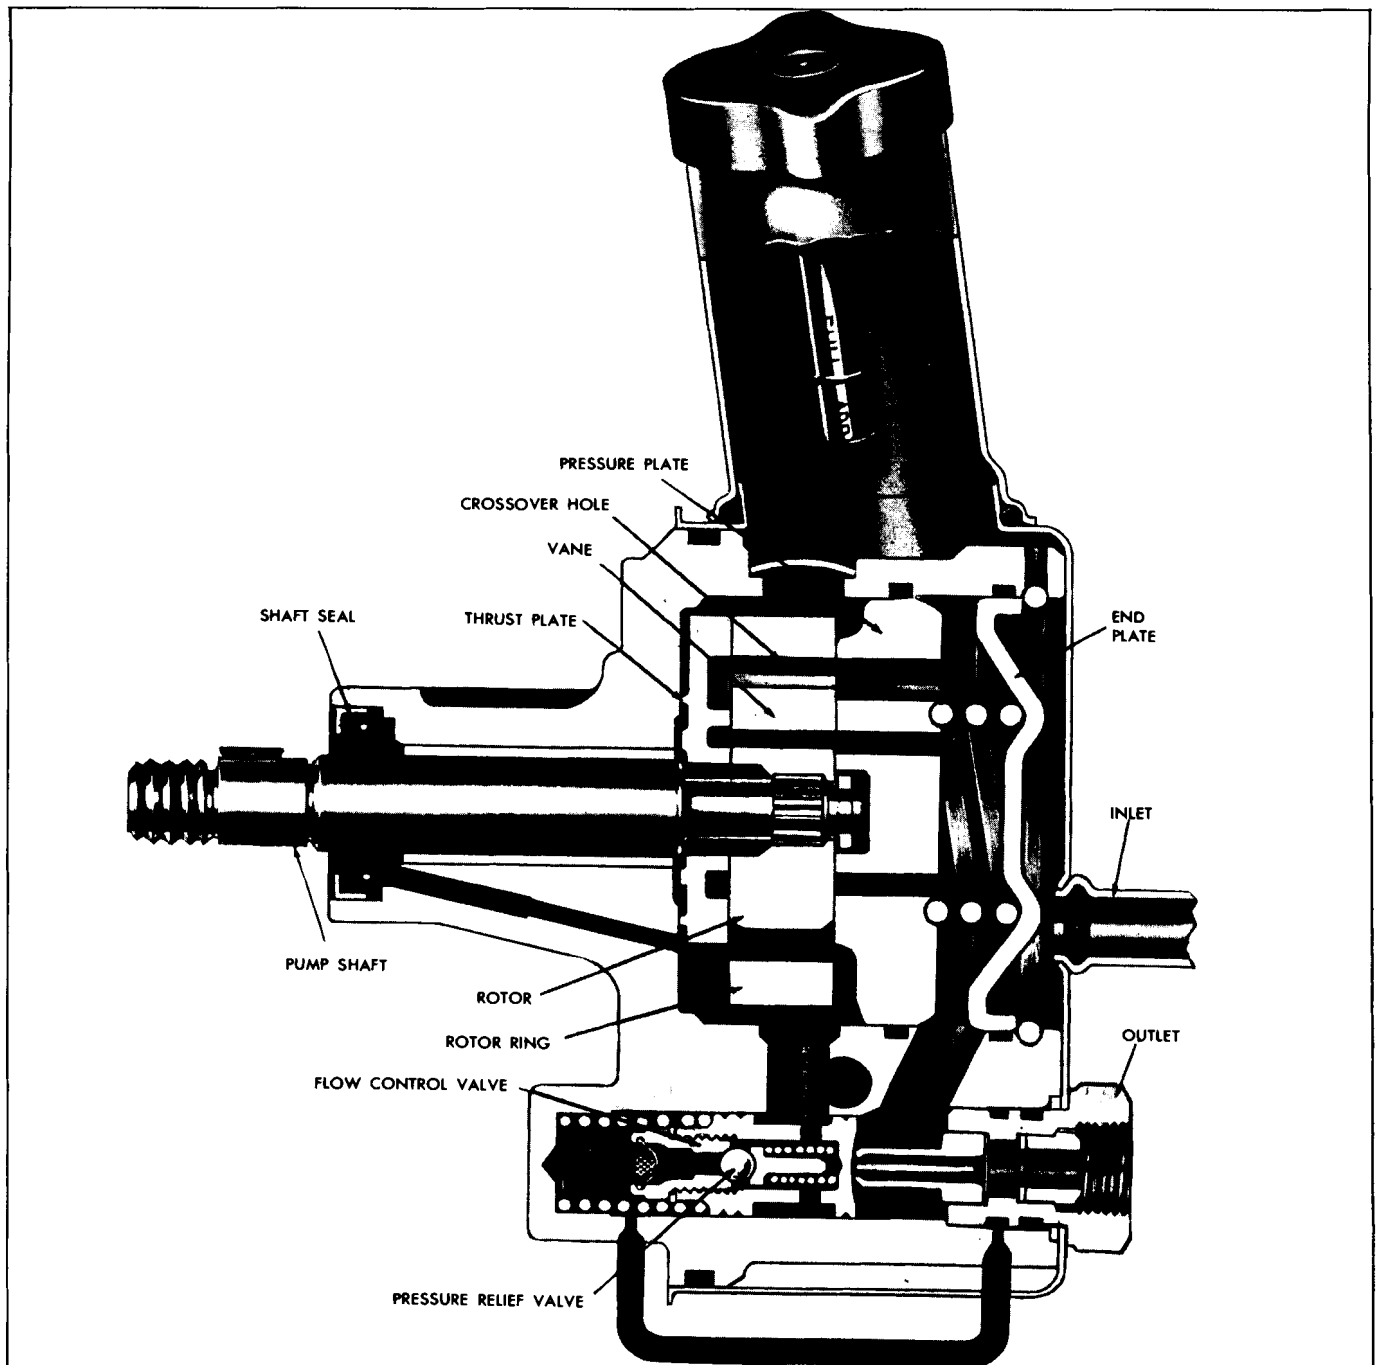
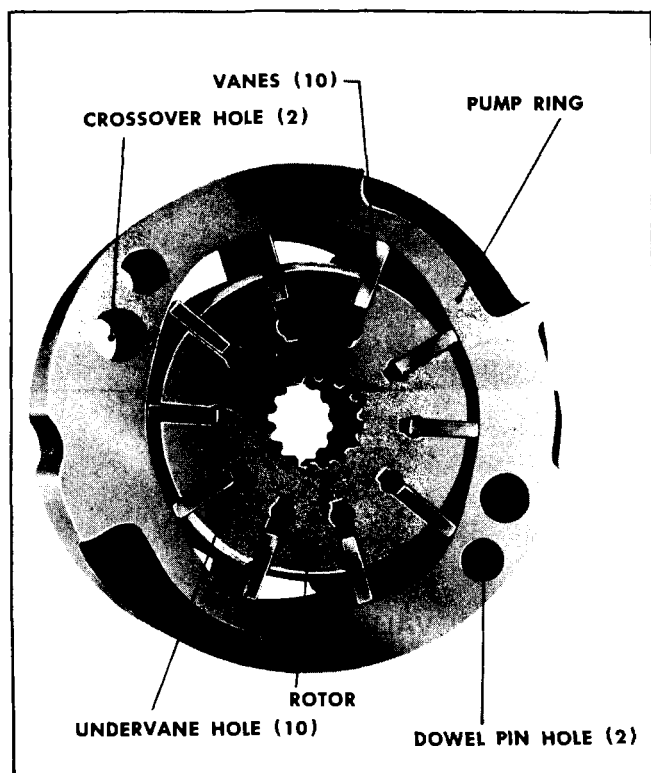
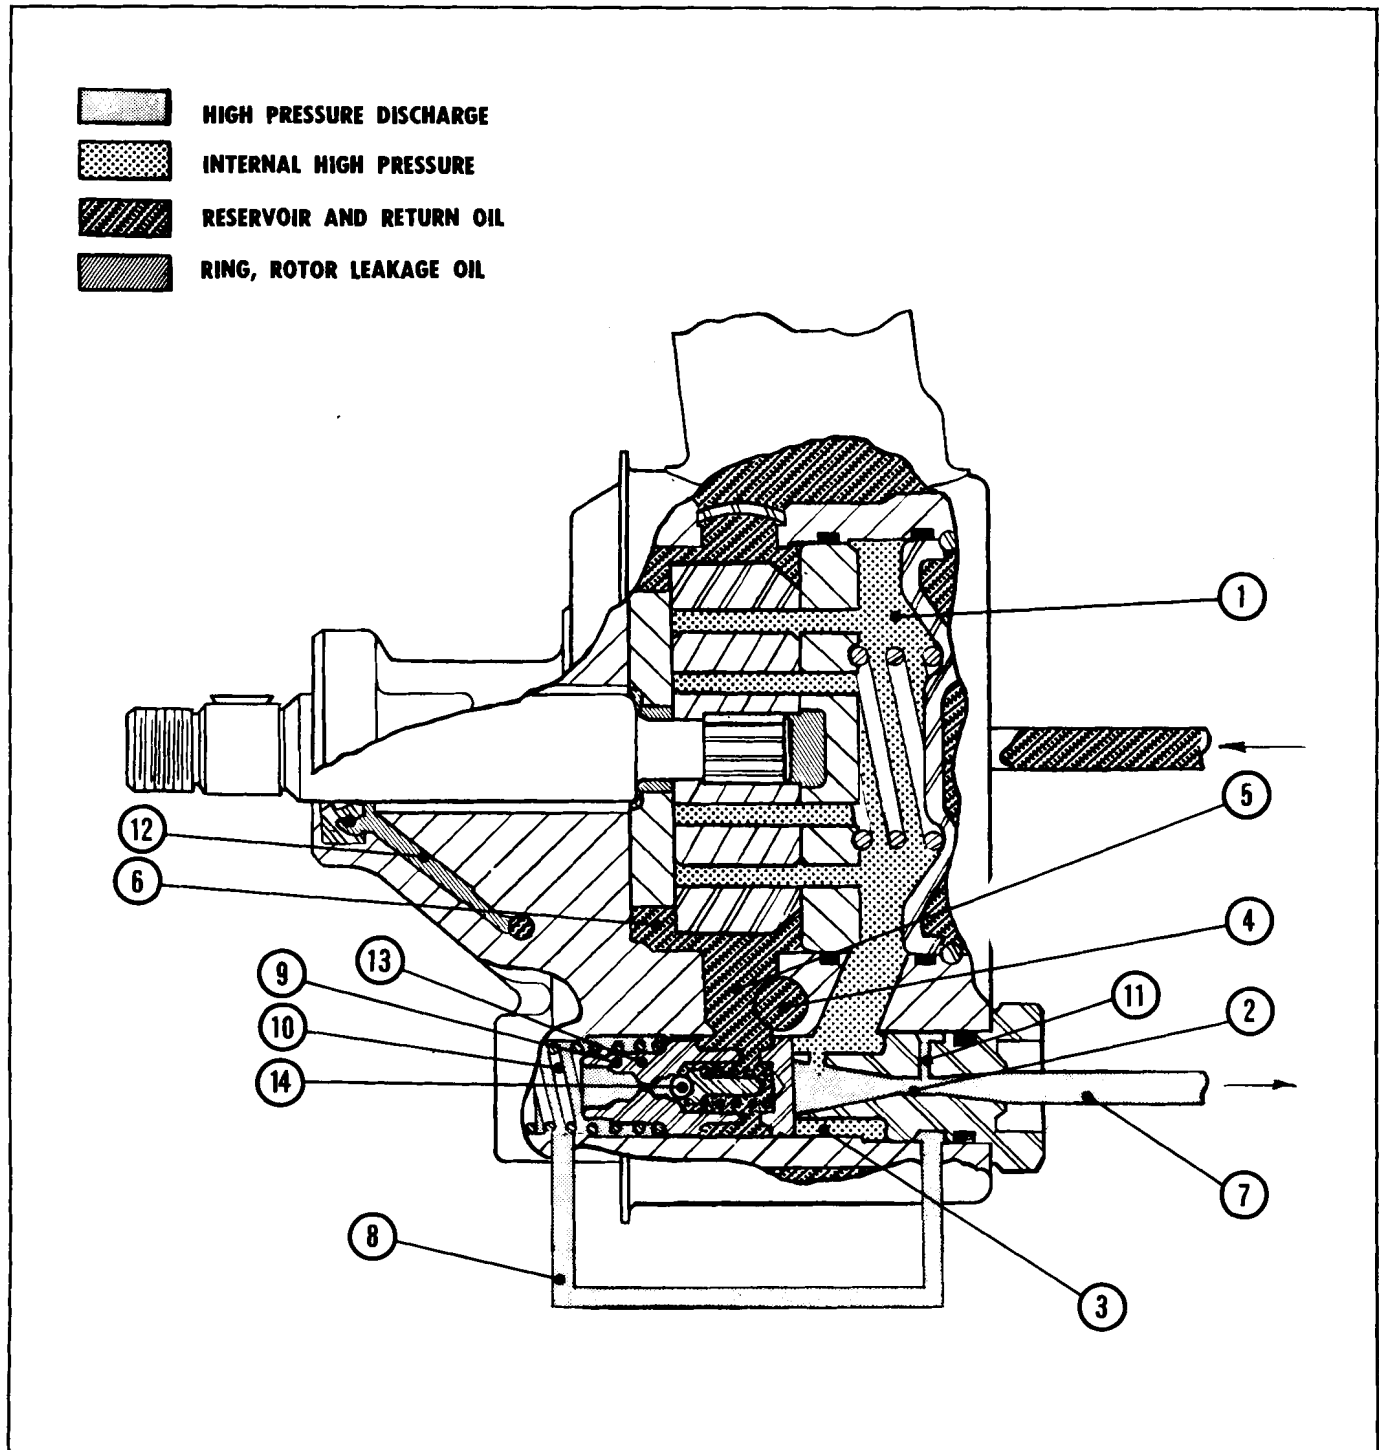

Fig. 9-14 Power Steering Pump
Fig. 9-16 Pump Ring, Rotor and Vanes
Fig. 9-17 Oil Flow - Slow Cornering
The housing and internal parts of the pump are inside the reservoir (Fig. 9-14) so that the pump parts operate submerged in oil. The reservoir has a filler neck fitted with a vented cap. The reservoir is sealed against the pump housing, leaving only the housing face and shaft hub exposed. A shaft bushing (bronze on steel) and seal are pressed into the housing from the front. The drive shaft is inserted through this seal and bushing.
The thrust plate (Figs. 9-14 and 9-15) is located on the inner face of the housing by two dowel pins. This plate has four central blind cavities for undervane oil pressure. The two outer blind cavities direct discharge oil through the two cross-over holes in the pump ring (Fig. 9-16) through the pressure plate, and into cavity 1 (Figs. 9-17, 9-18 and 9-19). The two outside indentations in the thrust plate are for intake of the oil from the suction part of the pump.
The pump ring (Fig. 9-16) is a plate having the mating surfaces ground flat and parallel. The center hole is two
The pressure plate is fitted against the ring and located with the same two dowel pins. This plate has six through ports. The four central through ports connect from cavity 1 (Figs. 9-17, 9-18 and 9-19) to supply undervane oil pressure. The two outer ports pass oil under discharge pressure to cavity 7. The two indentations are for oil intake from the suction part of the pump, cavity 7 (Figs. 9-17, 9-18 and 9-19) into the rotor.
The drive shaft is fitted with a pulley and is belt driven from the crankshaft. The rotor is loosely splined to the drive shaft and secured with a retaining ring. It is located centrally within the ring and between the thrust and pressure plates. The ten vanes are mounted in radial slots in the rotor (Fig. 9-16).
When the pump and power steering gear are completely void of oil, adding oil to the reservoir will completely envelope the pump housing assembly which is inside the reservoir (Fig. 9-14). Oil is drawn into the intake portion of the pump by suction (and weight of oil) causing it to flow through a drilled passage in the lower portion of the housing (4) to another drilled hole leading to a groove around the rotor ring (3) to tend to fill this area and also the two suction openings on the surface of the thrust plate and two suction openings in the pressure plate. Oil fills the lower opening in the thrust plate to feed the rising portion of the rotor ring. Air is pumped out of the pump through the gear oil circuit to the gear, then to return to the reservoir and out the vented cap.
As the pump drive shaft turns the rotor, the vane tips follow the inner cam surface of the pump ring, moving outward and inward twice during each revolution. This results in a complete pumping cycle every 180 degrees of rotation (Fig. 9-16). Oil is moved in the spaces between the vanes. As the vane tips move outward, oil is sucked into the intervane spaces through four suction ports in the pressure and thrust plates. The pressure of the oil is raised, and the oil is discharged from the pump ring, as the vane
tips move inward. High pressure oil discharges into cavity 1, (Figs. 9-17, 9-18 and 9-19), through two open ports in the pressure plate, and through two blind ports in the thrust plate, which are connected to cavity 1 by the cross-over holes in the ring. A portion of this oil is circulated through the central port system in the pressure plate, forcing the vanes to follow the cam surface of the ring. The ring-rotor leakage oil (12) is used for drive shaft bushing lubrication and then bled to the reservoir.
During slow cornering maneuvers (Fig. 9-17), the oil pressure required will usually not exceed 400 p.s.i. The speed of the pump is not high enough to require internal bypassing of oil, therefore, the pump by-pass port to (5) remains closed. The high pressure discharge oil (7) is slightly lower in pressure than the internal high pressure oil (1). The drop in pressure occurs as oil flows through the flow